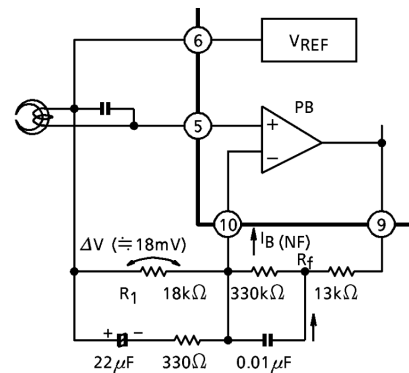

Fig.1 DC output voltage of playback amplifier.
In case that β of transistor is assumed 100, I_{B(NF)} is flowed 0.2μA in Fig.1. And output voltage of playback amplifier (pin (8),(9)) in Fig.1 is